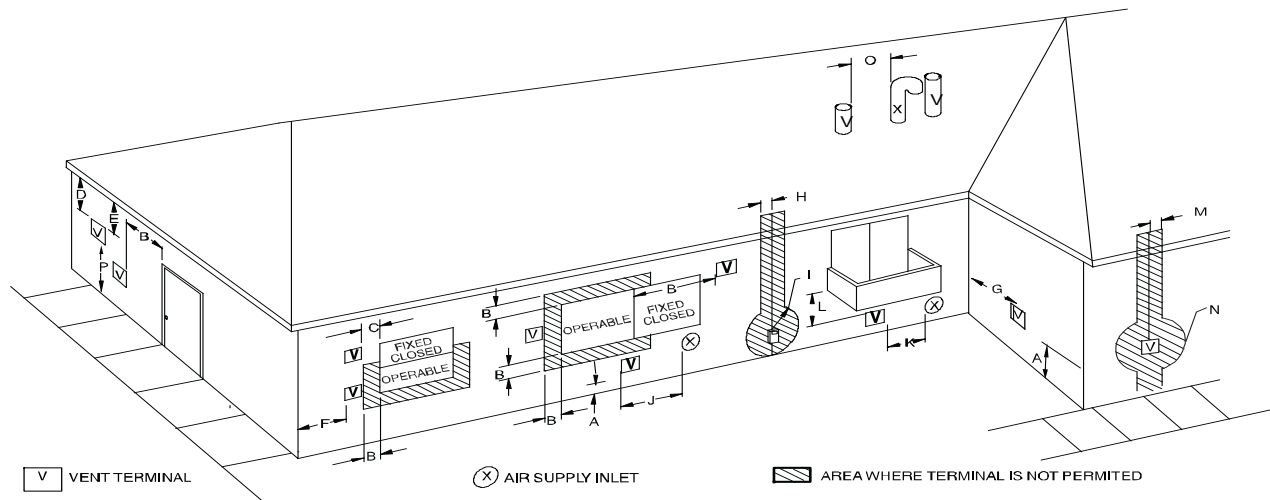

Fig. 43 – Direct Vent Termination Clearance
In a direct-vent (2-pipe) system, all air for combustion is taken directly from outdoor atmosphere, and all flue products are discharged to outdoor atmosphere. Combustion-air and vent pipes must terminate together in the same atmospheric pressure zone, either through the roof (preferred) or a sidewall. See Fig. 43 for references to clearances required by National code authorities.
For vent termination clearance, references to National codes are shown in Fig. 43 for Direct Vent/2-Pipe system and Fig. 44 for Ventilated Combustion Air/Non-direct Vent/1-Pipe system. For exterior termination arrangements, refer to Fig. 40 for Direct Vent/2-Pipe system and Fig. 41 for Ventilated Combustion Air/Non-Direct/1-Pipe system. Contact Local code authorities for other requirements to and/or exemptions from the National codes shown in the figures.
1. Comply with all clearance requirements stated in Fig. 43 or Fig. 44 per application.
Direct vent (2-pipe) vent and combustion air pipes must terminate outside the structure. See Fig. 43 For references to vent clearances required by National code authorities. Allowable vent and combustion air terminations are shown in Fig. 40.